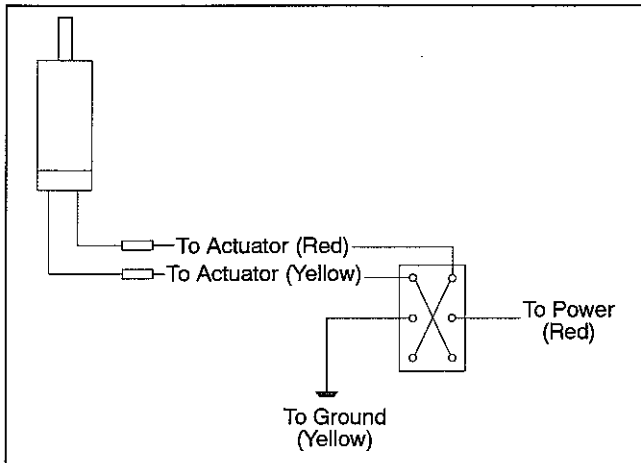

figure 16
5. Connect the red wire to the tractor power supply. Connect the yellow wire to a good ground, preferably the battery ground or tractor frame (figure 16).